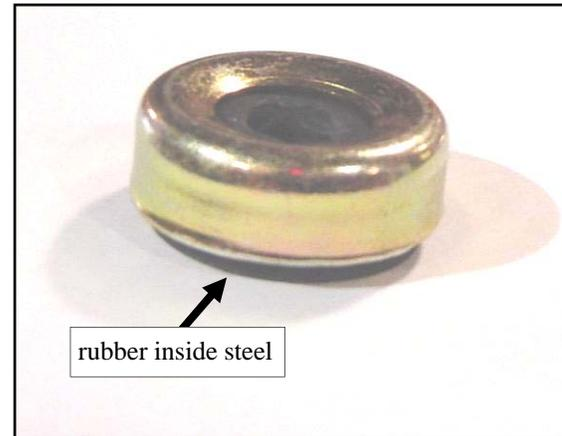

Fig. 9.1 (view of steel and rubber washer)
9.1 Per fig. 9.1, install one thick rubber washer inside one steel cup washer as shown (with the rubber showing out the bottom).